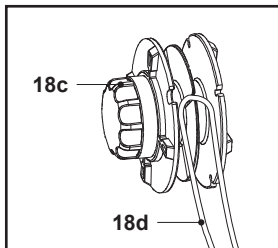

Fig. 28
5. Double the trimmer line (18d) back and lead the loop through the slot of the trimming spool (18c) and hook it (Fig. 28).